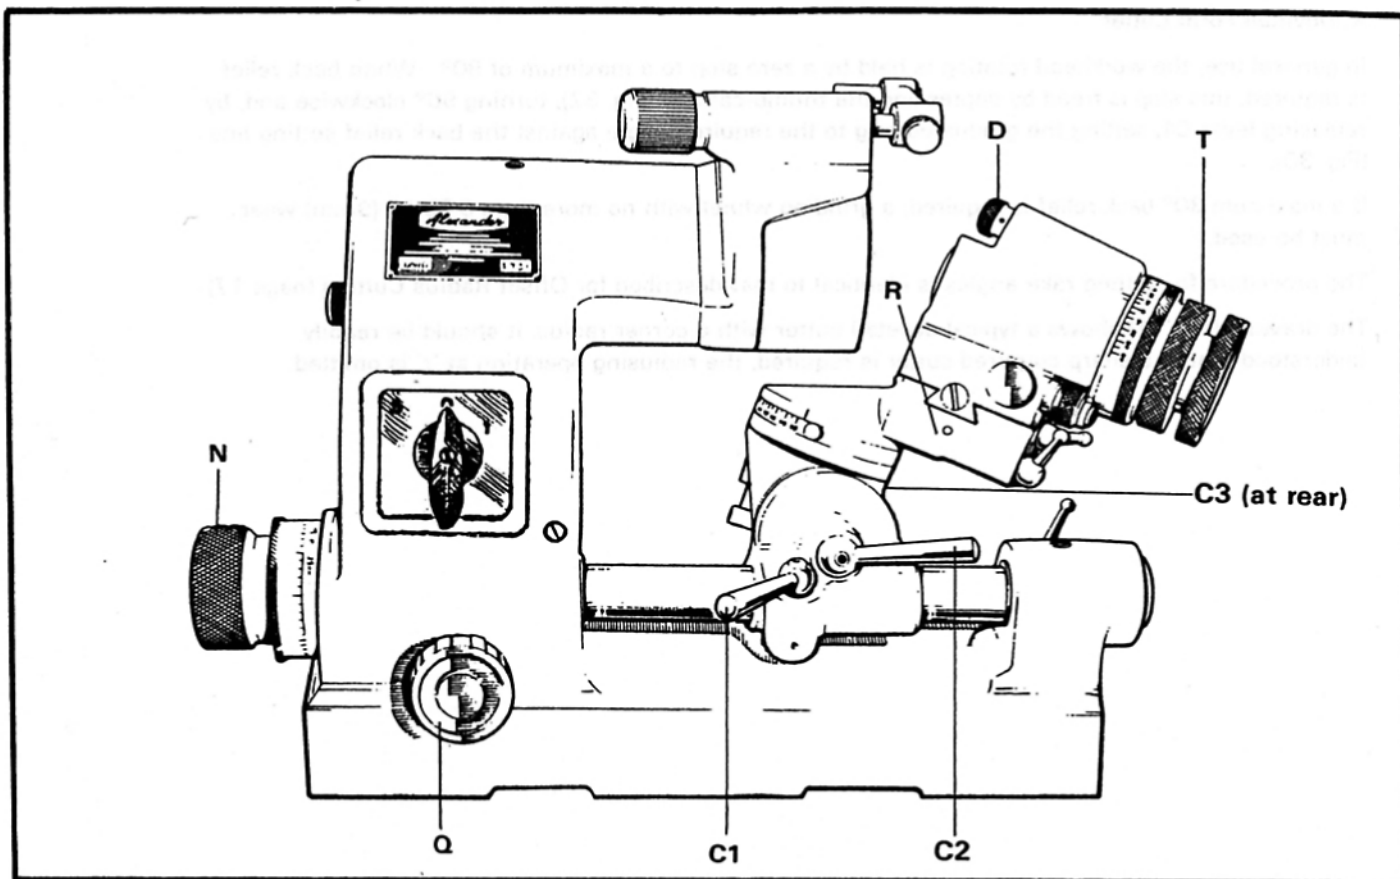

FIG. 26
H. Triangular Parallel Sides (Figs. 26, 27, 28 and 29)
Place the index pin of the snap lock D (Fig. 26) in the centre hole. Check that all readings are set to zero. Unclamp the locking handle C1 (Fig. 26) and slide the cutter unit along the guide bar until the cutter almost touches the grinding wheel, then reclamp C1 (Fig. 26). Using the handwheel Q (Fig. 26) set the length of the cutting edge required. Advance the cutter by using the micrometer drum N (Fig. 26) to touch the side of the grinding wheel and grind a small flat along the length of the cutter.
Index the collar T (Fig. 26) through 120° , by pulling out the snap lock D and allowing it to snap back into Four slots in turn in the Index Plate. The fourth slot is 120° to the first.
Insert the cutter in the collet and make sure all the readings are set to zero. Unclamp the lock C3 (Fig. 26) and swing the support arm R (Fig. 26) to half the required angle of the cutter and reclamp. Place the index pin of snap lock D (Fig. 26) in the right hand hole and grind the outside diameter of the cutter to size. Rotate the collar T (Fig. 26) until any slot in index plate is vertical and drop the snap lock D (Fig. 26) into the centre hole and commence grinding small flat along the length of the cutter. It will be seen that the land D (Fig. 26) is not parallel to the tapered diameter of cutter. Reduce the angle of the support arm R (Fig. 26) and regrind the flat until a parallel land is obtained. Grind the flats to a knife edge following the same procedure as that used for the triangular parallel sided cutter.
This cutter is produced in a way similar to the above cutter, but the index collar T (Fig. 26) is only swung through 90° instead of 120° . The cutting point can be formed in two ways: